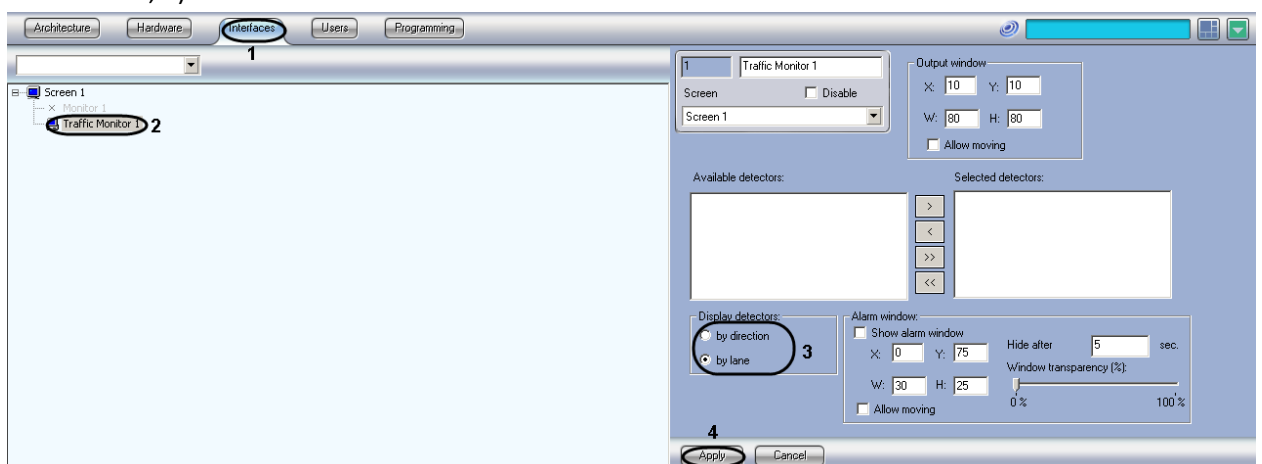

Fig. 7.8—3 Selecting the information about vehicle's direction display option
3. Select one of the radio-buttons in the Display detectors group - by direction, or by lane (see Fig. 7.8—3, 3).
4. Click «Apply» to save the settings (see Fig. 7.8—3, 4).